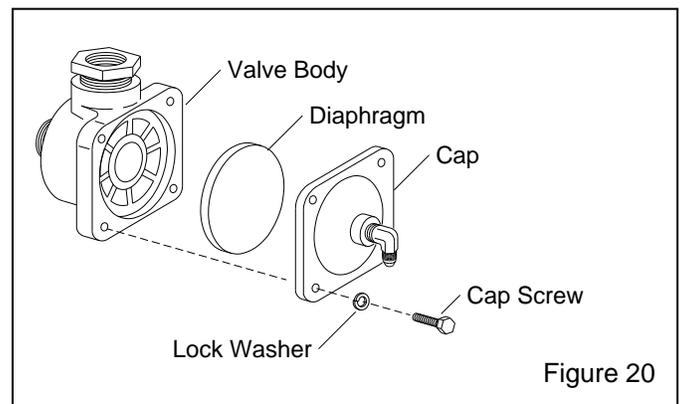

Figure 20
**6.5 Diaphragm Outlet Valve - Figure 20**